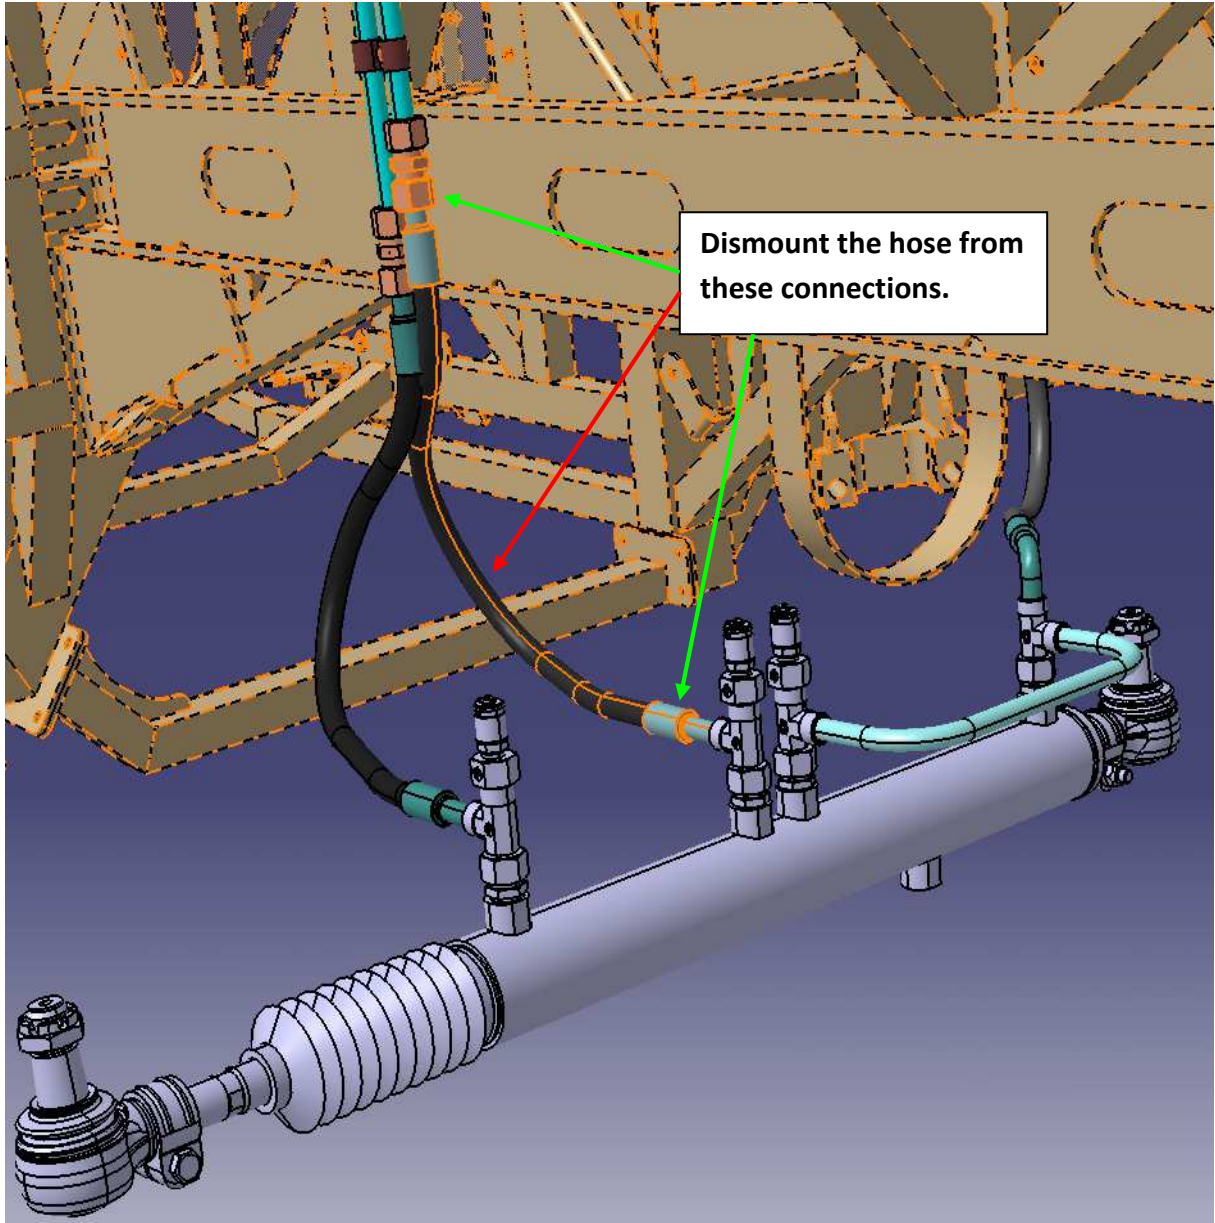

Figure-4
4. Dismount the 9630-04Y hose and 61102-90000-25 straight union then mount the 9630-32Y hose as replacement of these parts. (see the Figure-4)